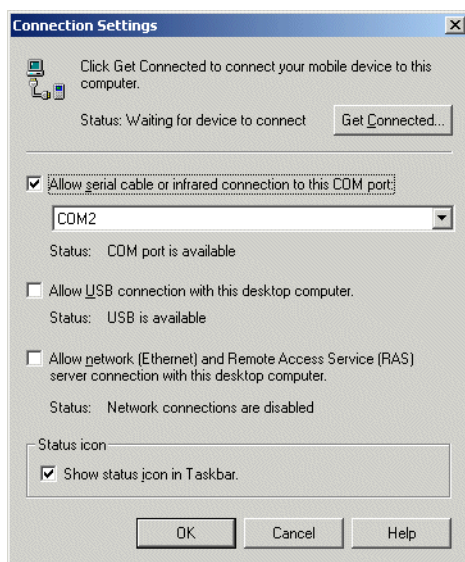

Figure 2-14 Serial Connection Settings
12. In the *ActiveSync* window, select *File - Connection Settings* and ensure the selections shown in Figure 2-14 are made. (Select the appropriate COM port for the host computer.)